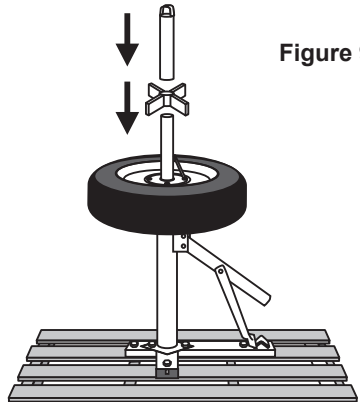

**Figure 8**
8. Set Bead Breaker Shoe against the edge of tire rim and push down on Bead Breaker Handle, removing bead from rim. See Figure 8, below.